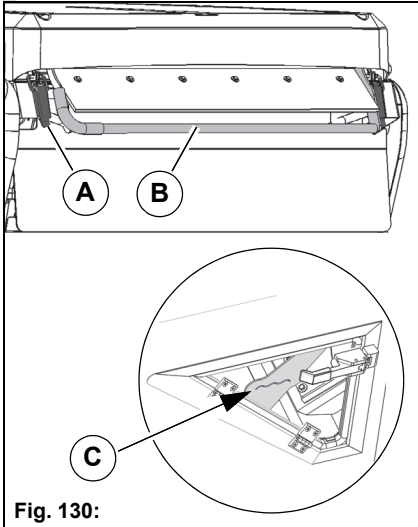

Fig. 130:
2. Open the lock **Fig. 130-A** of the dirt hopper.
3. Adjust the rear flap with the lever **Fig. 130-B**.
5. Fill the dirt hopper up to the mark of the plate **Fig. 130-C**. Filling volume for circulating water approx. 180 litres. After filling, check the function of the supply to the suction mouth.